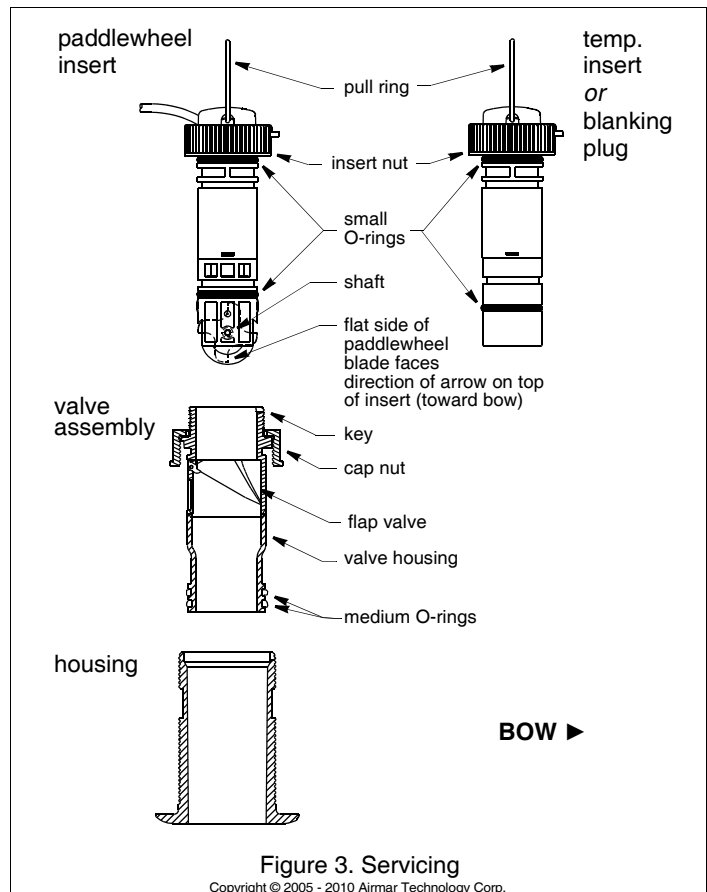

Figure 3. Servicing
5. After the marine sealant cures, inspect the O-rings on the valve assembly (replace if necessary) and lubricate them with the silicone lubricant supplied (see Figure 3). The O-rings must be intact and well lubricated to make a watertight seal.
1. Place the INSERT nut on the top of the *long* blanking plug. Attach the pull ring to the plug, capturing the insert nut (see Figure 3).
5. Slide the *long* blanking plug into the housing (see Figure 3). Seat it into place with a pushing twisting motion until the key fits into the notch. Screw the INSERT nut in place and **hand tighten** only. Do not over tighten.
2. Inspect the O-ring (replace if necessary) and lubricate it with silicone lubricant or petroleum jelly (Vaseline®) (see Figure 3). The O-ring must be intact and well lubricated to make a watertight seal.
6. Clean, repair, or replace the valve assembly, so the flap valve moves freely and seats against the valve housing (see Figure 3).
1. Using the new paddlewheel shaft, push the old shaft out about 6mm (1/4"). With pliers, remove the old shaft (see Figure 3).